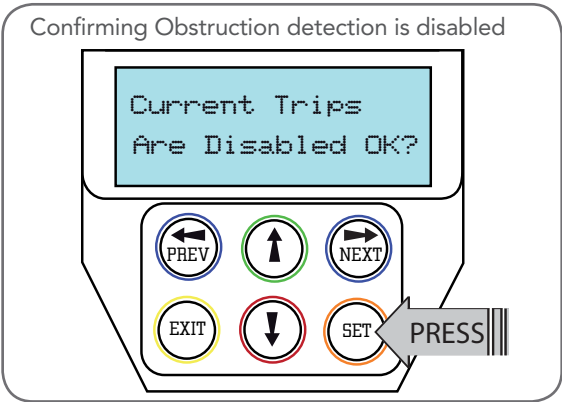

Fig I.1
- e. No current trip obstruction detection is available when using timed travel. Press SET if you accept this (Fig. I.1).